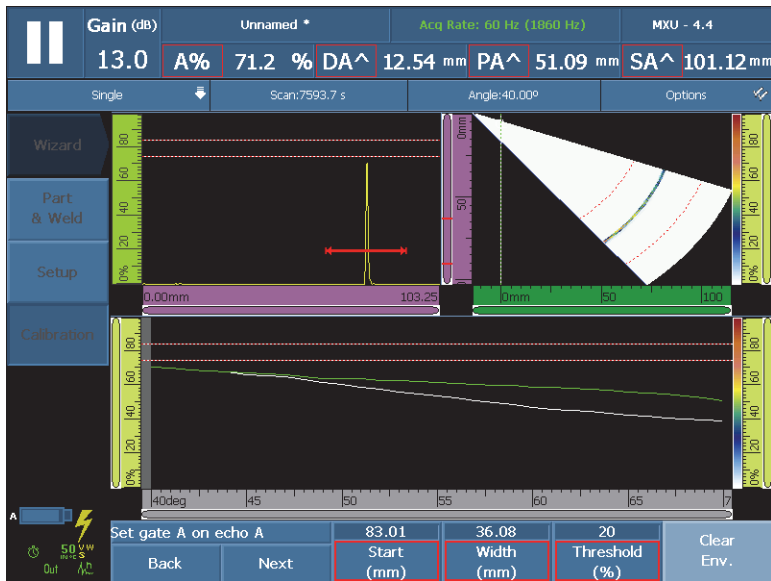

Figure 5-22 Set Gate A over the signal envelope
- 6. In the **Set Gate A on Echo A** step, proceed as follows (see Figure 5-22 on page 144):